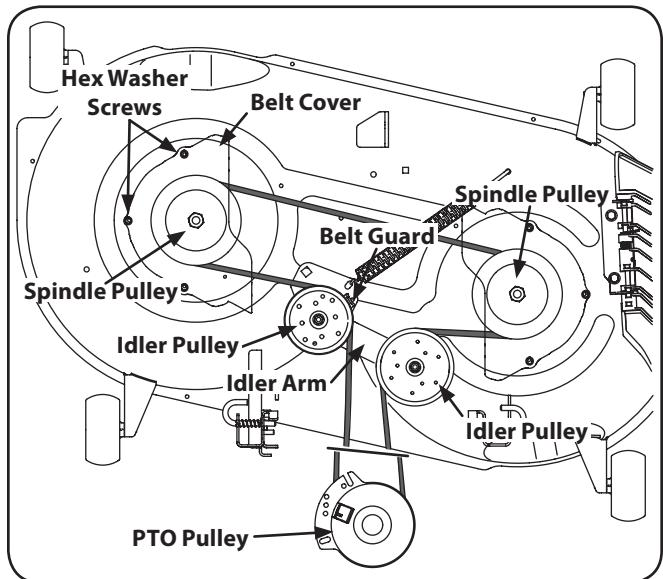

Figure 7-10
2. Remove the hex washer screws securing the belt covers to the deck. See Figure 7-10.
- Install the new belt around the spindle pulleys as shown and reinstall the belt covers. See Figure 7-10.